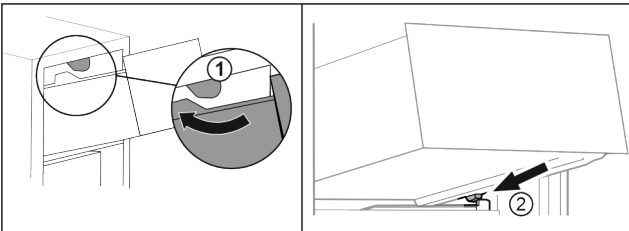

Fig. 89
- ▶ Guide drawer around the upper stoppers. Fig. 89 (1)
- ▶ Place drawer at an angle behind the lower stoppers on the molded rib. Fig. 89 (2)